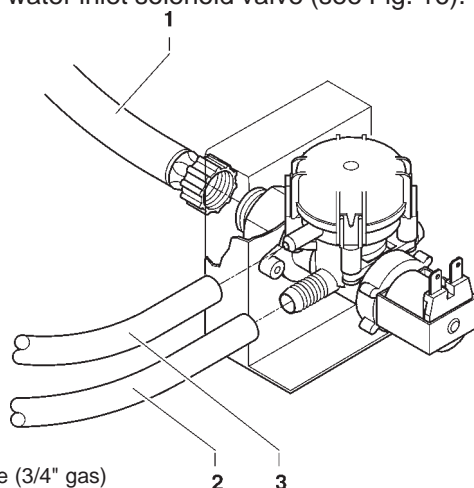

Fig. 16
Use a hose capable of withstanding the water mains pressure and suitable for use with foodstuff (min. inside diameter of 6 mm) to connect the water supply to the fitting (3/4" gas) of the water inlet solenoid valve (see Fig. 16).
The water inlet solenoid valve (see Fig. 16) is equipped with an overflow device which mechanically stops the water inlet if there is a malfunction in the solenoid valve or in the boiler water level control device.
- loosen the nut which secures the solenoid valve supply hose to relieve the water mains residual pressure and then tighten again (see Fig. 16);